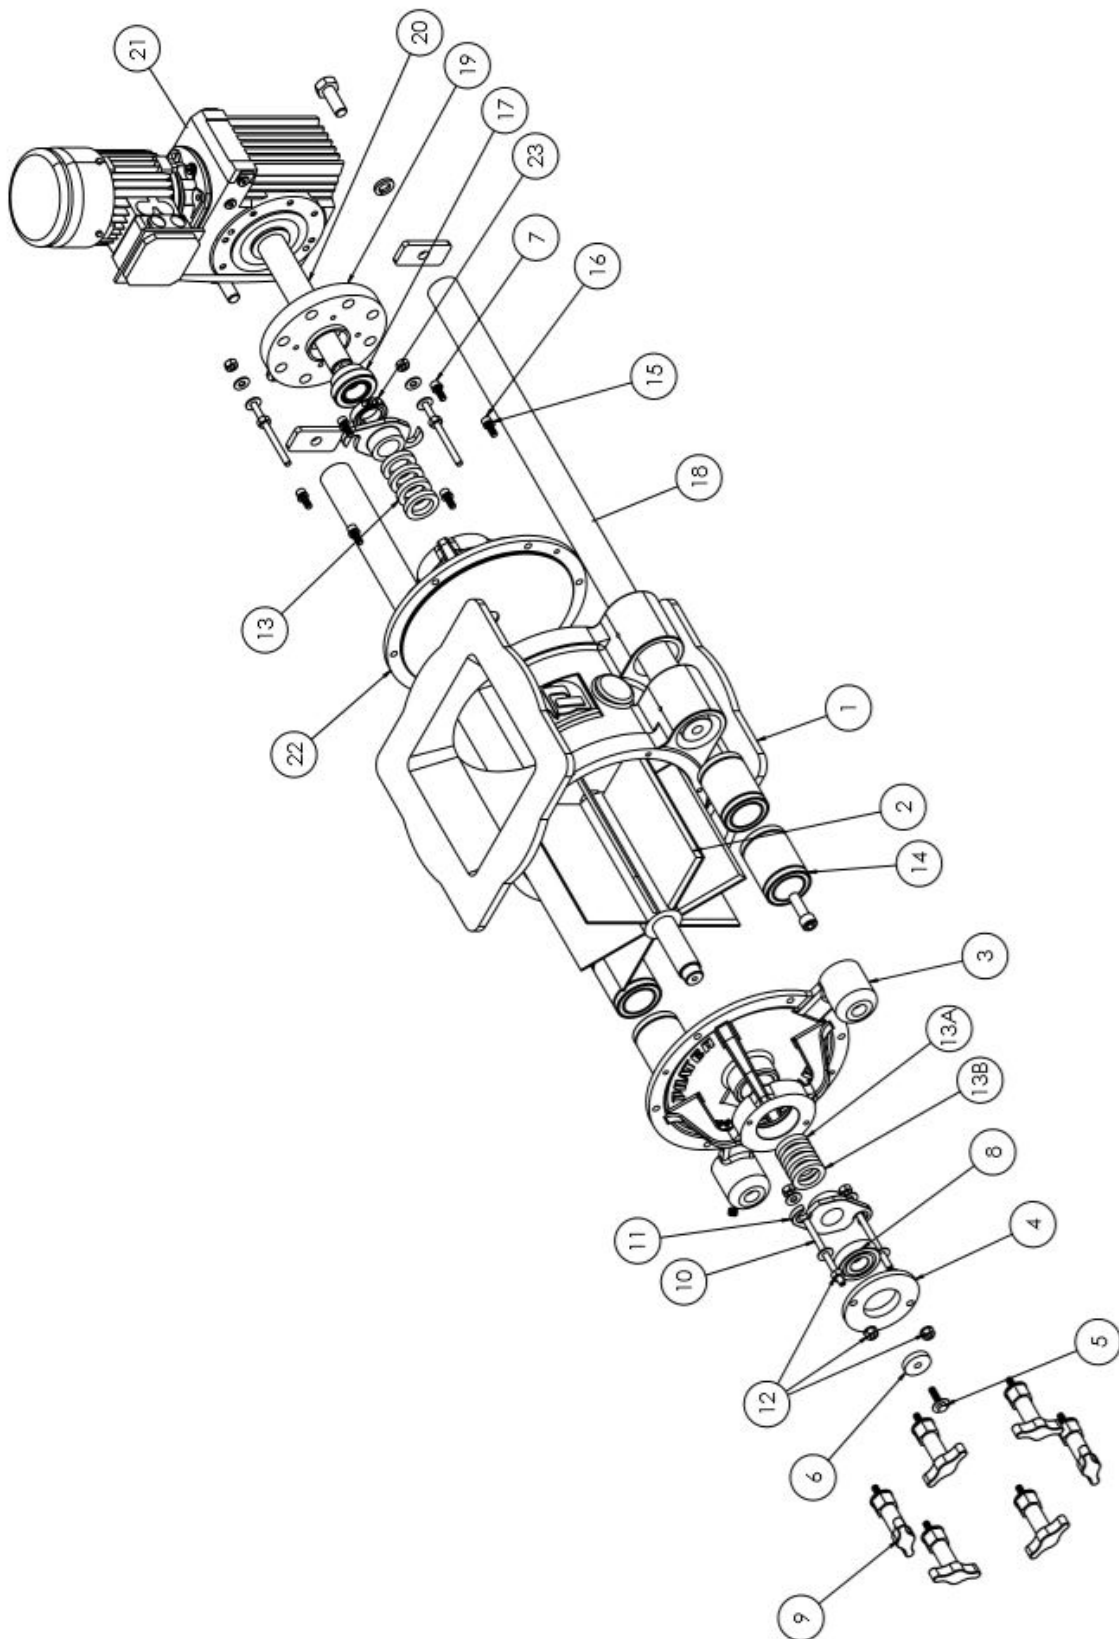

Figure 7-1: BAV Airlock Exploded View
1. Turn off the BAV Airlock and allow rotor (**Figure 7-1 [7]**) to come to a complete stop.
3. Remove the 6 hand knobs (**Figure 7-1 [5]**) which secure the end plate (**Figure 7-1 [6]**) to the housing (**Figure 7-1 [14]**).
5. Using both hands, firmly pull the rotor and endplate assembly out of the housing (**Figure 7-1 [7]**) and perform required cleaning or maintenance of the rotor and housing.
6. When maintenance is finished, realign rotor (**Figure 7-1 [7]**) with stub shaft keyway (**Figure 7-1 [22]**) using the stamped indicator arrow on the BAV rotor shaft end (**Figure 7-1 [7]**)
7. Insert rotor into the housing and fasten the 6 hand knobs until the endplate is completely seated into the BAV Airlock housing (**Figure 7-1 [1]**).
The bearings (**Figure 7-1 [3]**) in the back of the BAV Airlock are lubricated and sealed at the factory, requiring no further lubrication for the life of the Airlock.
Three rings of square section, molded, split ring self-lubrication packing (**Figure 7-1 [13]**) are provided in each packing seat, followed by an adjustable packing gland (**Figure 7-1 [11]**). The standard packing used in the BAV Airlock are made of abrasion resistant polyimide, but food grade Teflon packing is available for certain applications.
1. Advance both lock nuts (**Figure 7-1 [12]**) along packing gland set screw (**Figure 7-1 [10]**) until the packing gland (**Figure 7-1 [11]**) is disengaged from the packing well.
2. Slide packing gland (**Figure 7-1 [11]**) along the set screws (**Figure 7-1 [10]**) by rotating it 90°. Slots are provided in the packing gland (**Figure 7-1 [11]**) to allow this rotation.
3. Slide packing gland (**Figure 7-1 [11]**) along the rotor shaft toward the bearing (**Figure 7-1 [8]**) until the packing gland (**Figure 7-1 [11]**) is completely free of the end plate (**Figure 7-1 [3]**).
4. Add new packings (**Figure 7-1 [13]**) as required.
5. To reassemble the packing gland to its operating position, it may be necessary to further adjust the packing gland (**Figure 7-1 [11]**) by advancing lock nuts (**Figure 7-1 [12]**) a couple turns until the packing (**Figure 7-1 [13]**) sits snug in the packing well.
Under certain operating conditions, especially when the Airlock is handling abrasive dust or being used in a high-pressure environment, it may be desirable to purge the packing gland with compressed air or inert gas. This is accomplished by installing a lantern ring (**Figure 7-1 [13A]**) in the gland in place of
the inner-most ring of packing (**Figure 7-1 [13]**), immediately adjacent to the rotor side of each endplate (**Figure 7-1 [3]**). The ring is so designed as to distribute the air or inert gas evenly in a thin film around the shaft. Lantern rings are generally made of stainless-steel.